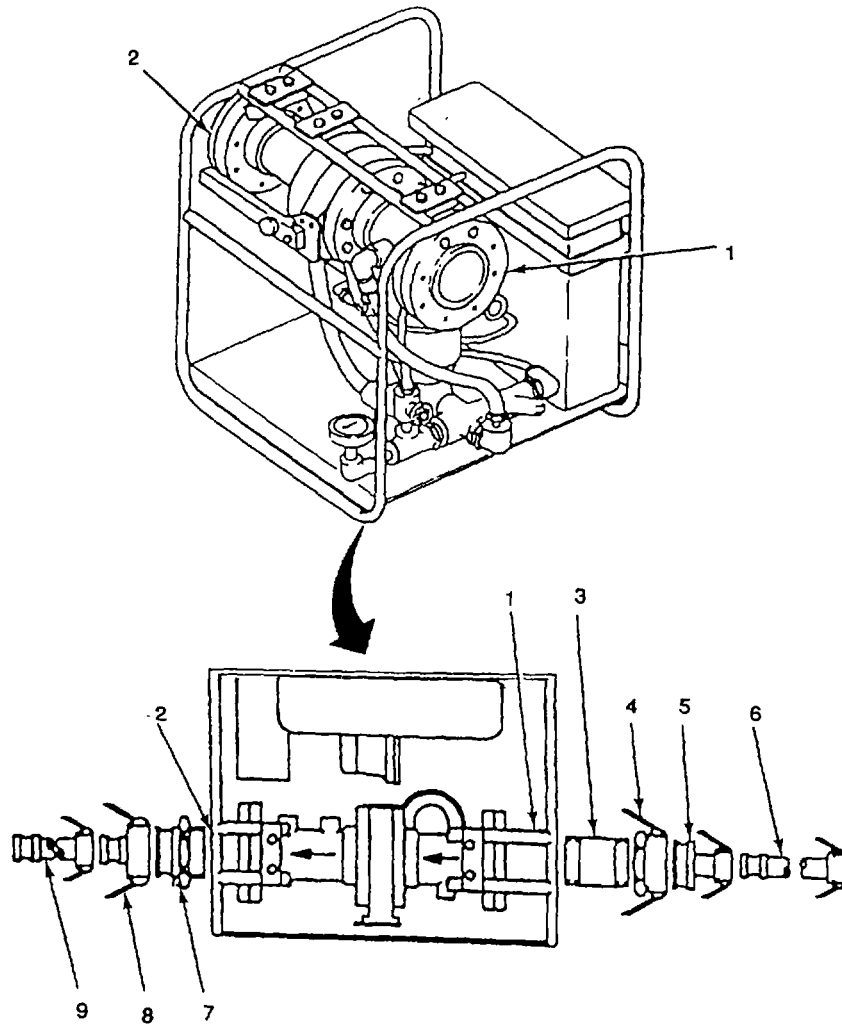

Figure 2-24. Hypochlorination Unit
- (9) Connect 2 in. X 20 ft rigid wall section hose assembly from storage tank to female quick-disconnect coupling half (3) on pump. Close cam arms (4).
- (10) Wrap anti-seize tape (Item 10, Appendix E) around threads on male quick-disconnect coupling half (5). Screw male quick-disconnect coupling half (5) into discharge port (2) of 125 GPM pump.
- (11) Connect 2 in. X 10 ft discharge hose to male quick-disconnect coupling half (5) on pump. Close cam arms.
- (12) Locate inlet (1, Figure 2-24) and outlet (2) ports of hypochlorination unit. Unscrew plastic dust caps from both ports. Store caps for later use.
- (13) Wrap anti-seize tape (Item 10, Appendix E) around threads on nipple (3). Screw nipple (3) into inlet (1) port on hypochlorination unit.
- (14) Screw female quick-is connect coupling half (4) onto nipple (3).
- (15) Push cam arms on female quick-disconnect coupling half (4) forward to open position.
- (16) Connect male end of reducer (5) to female quick-disconnect coupling half (4). Close cam arms.
- (17) Push cam arms on female end of reducer (5) to open position.
- (18) Connect 2 in. X 10 ft hose (6) from 125 GPM pump to female end of reducer (5). Close cam arms.